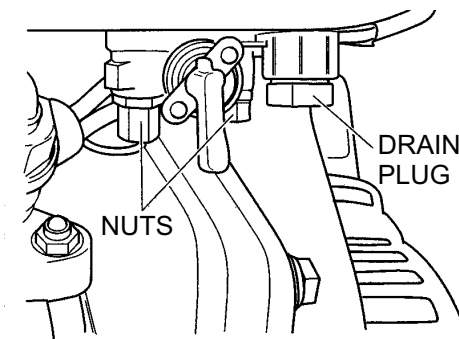

Figure 40. Fuel Filter
3. To clean the fuel filter, loosen the nuts (Figure 40) of the fuel cock and pull out the filter from the F.O. tank filler port. Wash the filter thoroughly with diesel fuel oil.